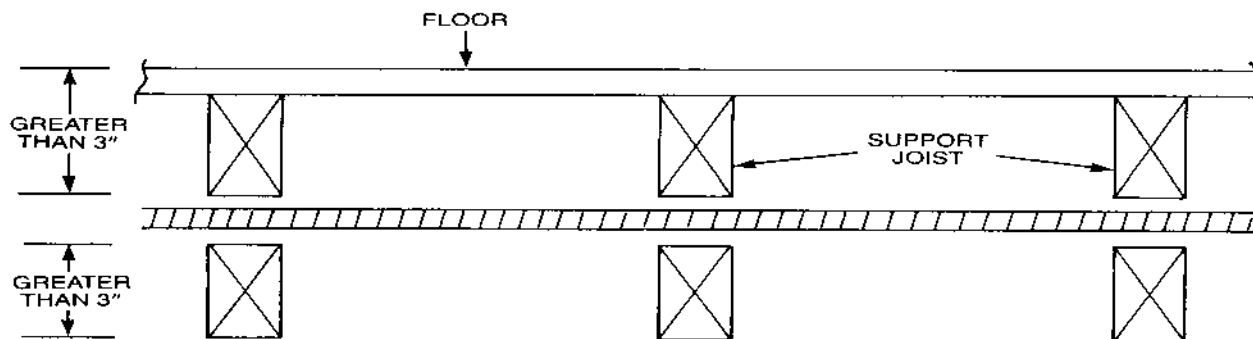

Figure: 4-22
- a. Where the tubing is supported more than 3 inches from any outside edge of a stud, joist, plate, etc. or wall surface. Figure: 4-22.